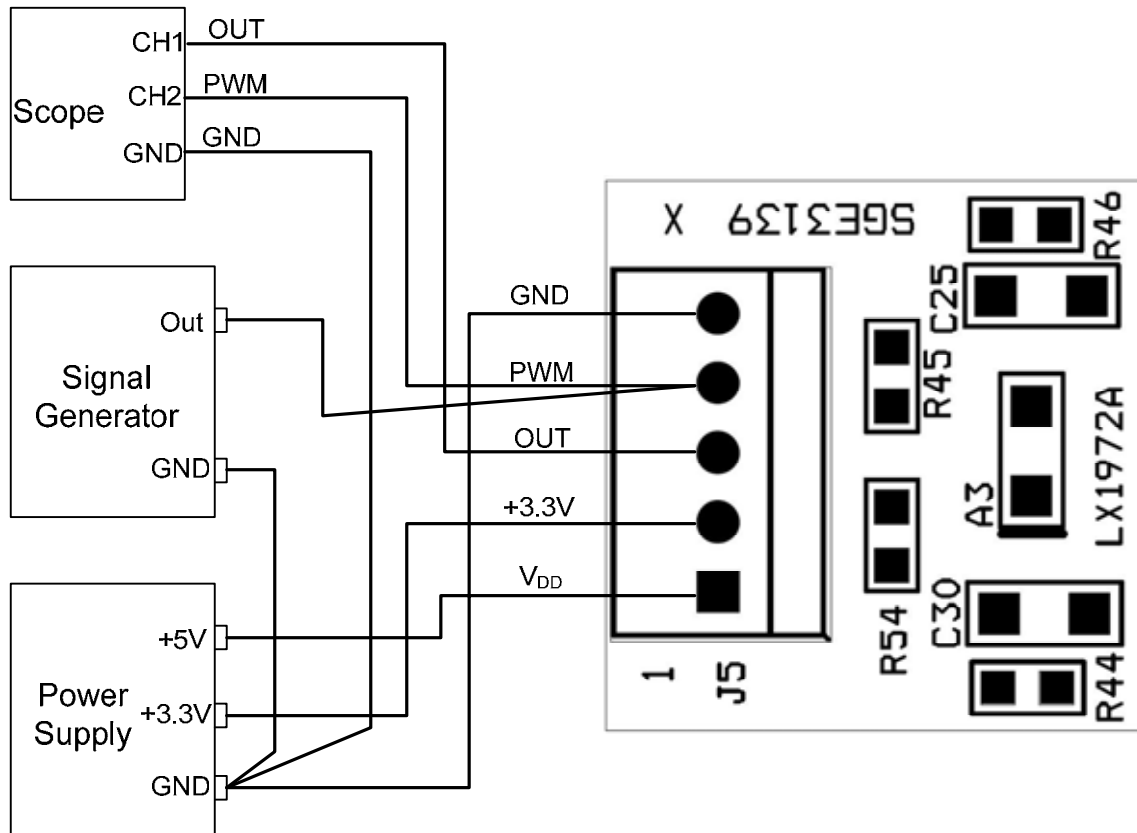

Figure 4 - LX1972A Evaluation Board Typical Test Hookup
Connections: The LX1972A Evaluation Board has a 5-pin connector connecting to outside power and signals. The connection pin names and functions are listed below. Figure 4 is a suggested test connection diagram.
- 1) Make connections as shown in Figure 4. Apply 5V power source to the board. Measure Pin 1 and Pin 5 on connector J5 by using multimeter (Red lead to pin 1, black lead to pin 5) to verify +5V power is supplied to the board.